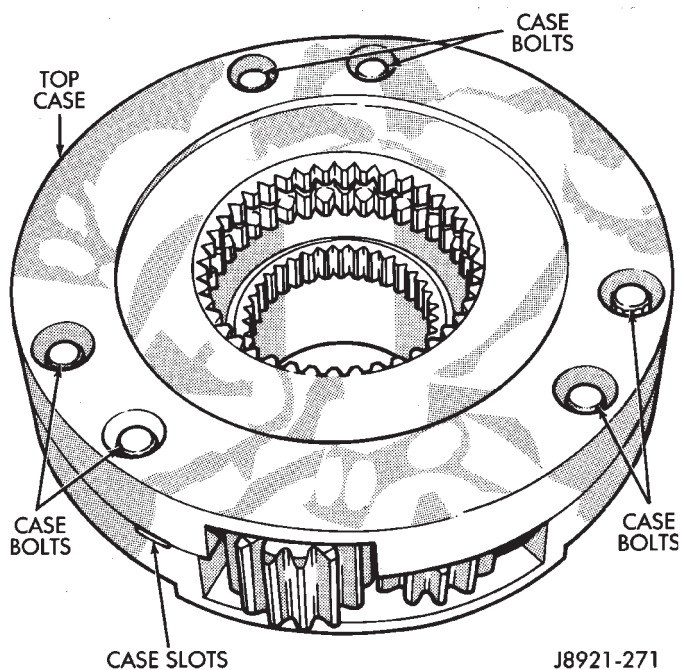

Fig. 34 Separating Differential Case Halves
- (48) Remove oil seals from the rear retainer, extension housing, oil pump and case halves.
(49) Mark differential case halves for reference.
(50) Remove differential case bolts and separate top case from bottom case. Use slots in case halves to pry them apart (Fig. 34).